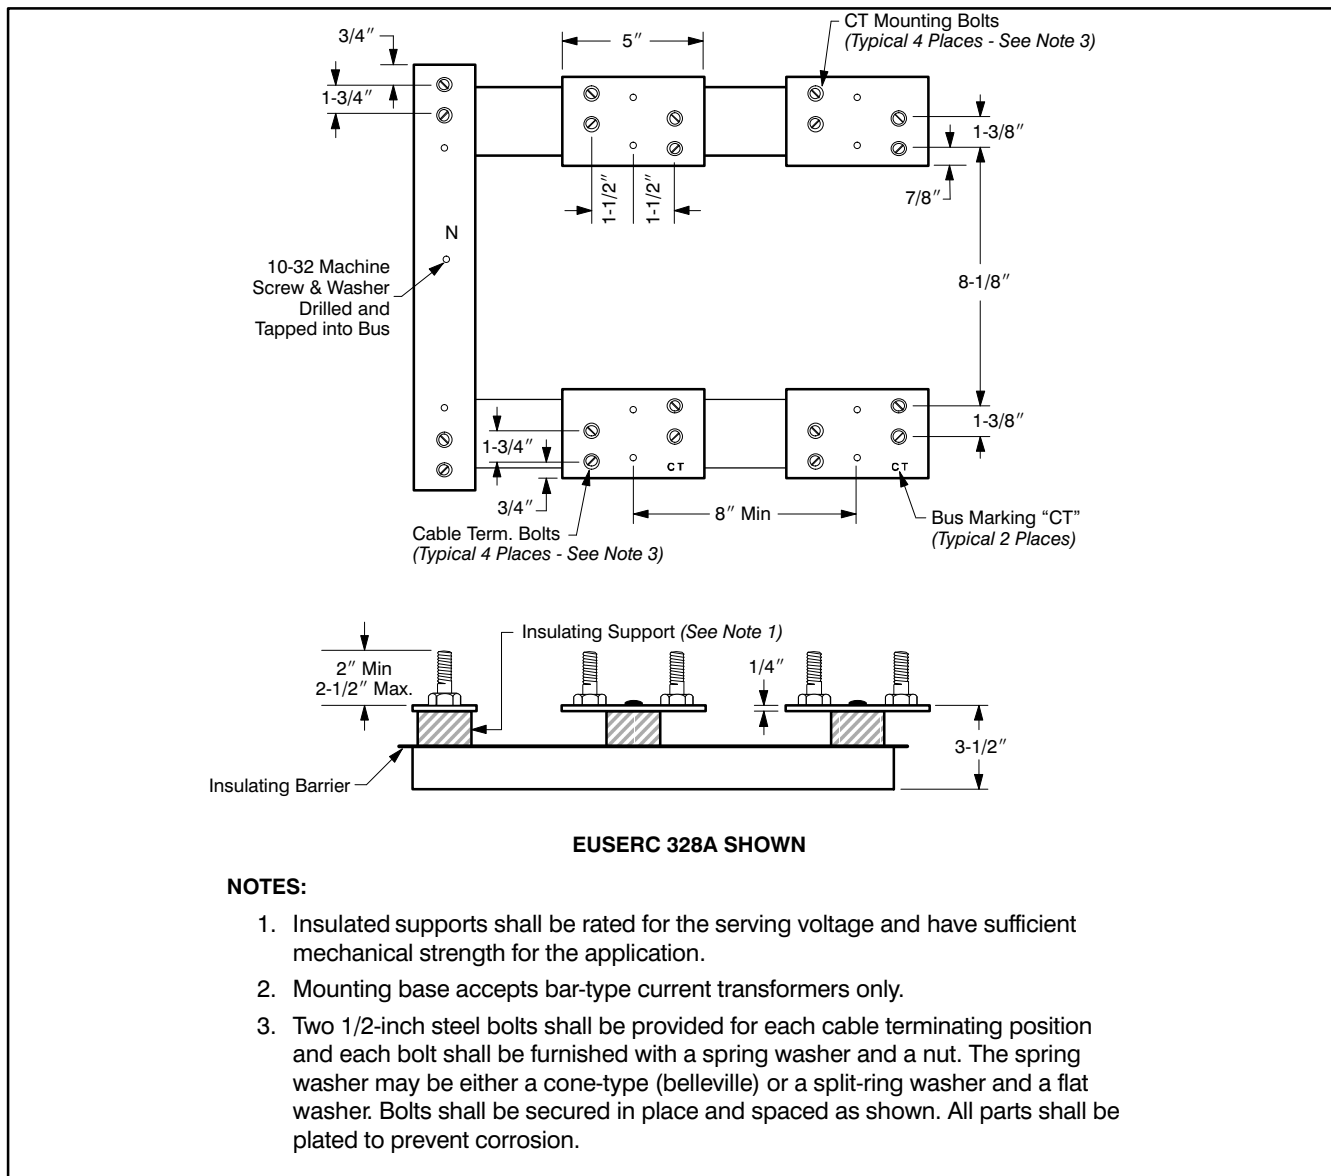

Figure 28 Single-phase CT mounting base bracket. EUSERC 328A (shown) or 328B
- Install a CT mounting base on services of 800 A or less (see *Figures 28 and 29*).